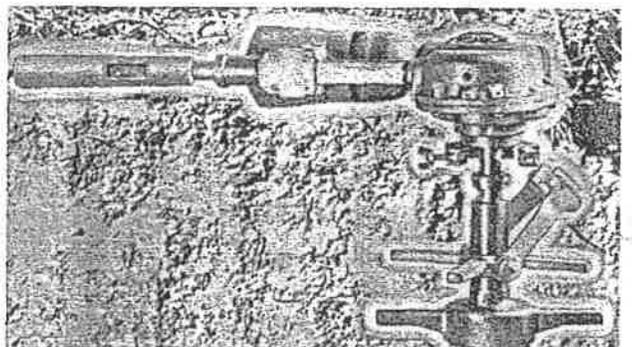

FIGURE 14
5. Start motor and rotate feed nut clockwise by hand to engage top part of tool into main. Continue to rotate feed nut until tap is securely started into main and feed yoke is no longer needed to take thrust of boring bar. At this point, the feed yoke may be removed from contact with thrust collar (on the B-101, turn the operating screw counter-clockwise to unlock the pivot arm and remove the feed yoke) allowing the boring bar to move downward and the tool to feed itself. FIGURE 14.